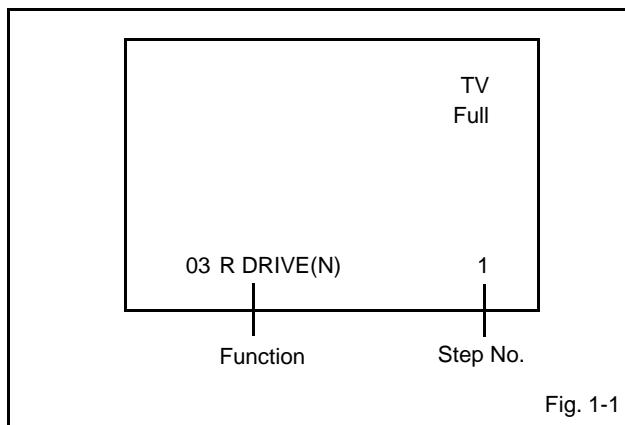

Fig. 1-1
2. Press the VOL. DOWN button on the set and the channel button (**9**) on the remote control for more than 2 seconds to display adjustment mode on the screen as shown in **Fig. 1-1**.
4. Activate the adjustment mode display of **Fig. 1-1** and press the channel button **(32)** on the remote control to select "BRIGHTNESS CENT".
10. Activate the adjustment mode display of **Fig. 1-1** and press the channel button **(32)** on the remote control to select "BRIGHTNESS CENT".
16. Activate the adjustment mode display of **Fig. 1-1** and press the channel button **(32)** on the remote control to select "BRIGHTNESS CENT".
22. Activate the adjustment mode display of **Fig. 1-1** and press the channel button **(32)** on the remote control to select "BRIGHTNESS CENT".
28. Activate the adjustment mode display of **Fig. 1-1** and press the channel button **(32)** on the remote control to select "BRIGHTNESS CENT".
4. Activate the adjustment mode display of **Fig. 1-1** and press the channel button **(51)** on the remote control to select "CONTRAST MAX".
10. Activate the adjustment mode display of **Fig. 1-1** and press the channel button **(51)** on the remote control to select "CONTRAST MAX".
16. Activate the adjustment mode display of **Fig. 1-1** and press the channel button **(51)** on the remote control to select "CONTRAST MAX".
22. Activate the adjustment mode display of **Fig. 1-1** and press the channel button **(51)** on the remote control to select "CONTRAST MAX".